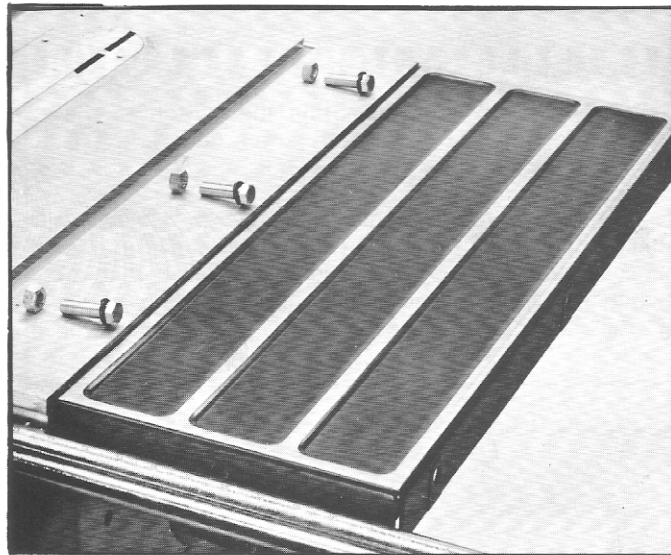

Fig. 17
1. If your saw table has through holes on the side of the table, attach the extension wing to the table, as shown in Fig. 17, using the 7/16-20 x 1-1/2" long screws, washers and nuts.
2. If your saw table has threaded holes on the side of the table, attach the extension wing to the table, as shown in Fig. 17, using the 7/16-20 x 1-1/2" long screws and washers. The nuts are discarded as they are not needed when the table is equipped with threaded holes.